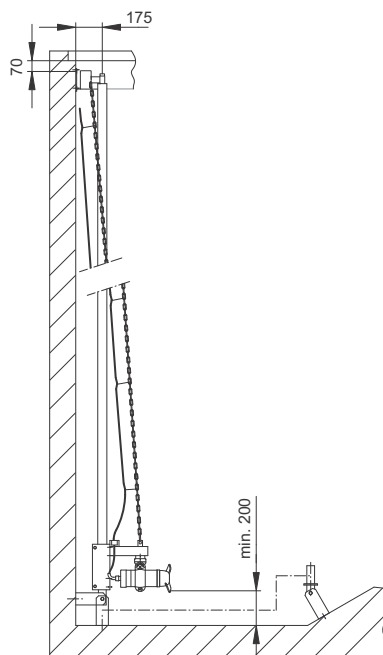

Fig. 4 Mounting on column profile
- motor bracket for mounting on column profile, fig. 4.